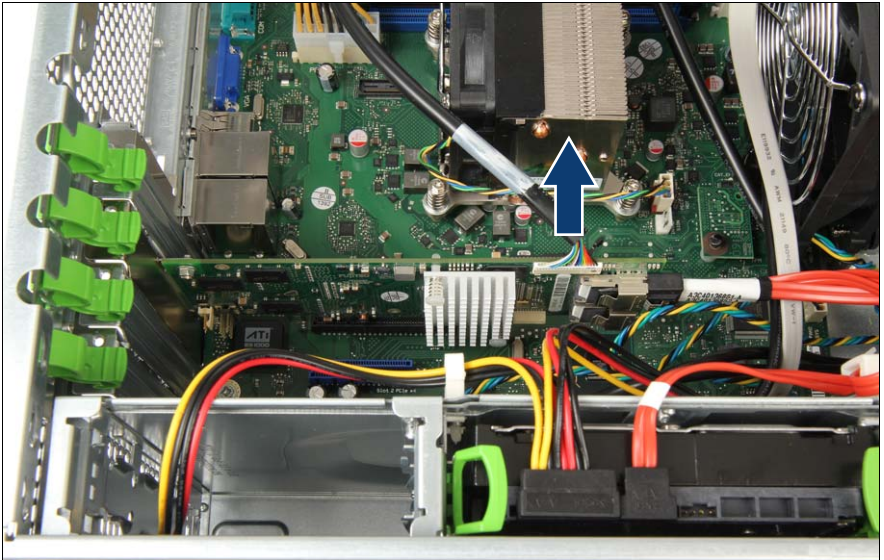

Figure 102: Disconnecting the BBU cable
- ▶ Remove the FBU adapter cable (see figure 102).